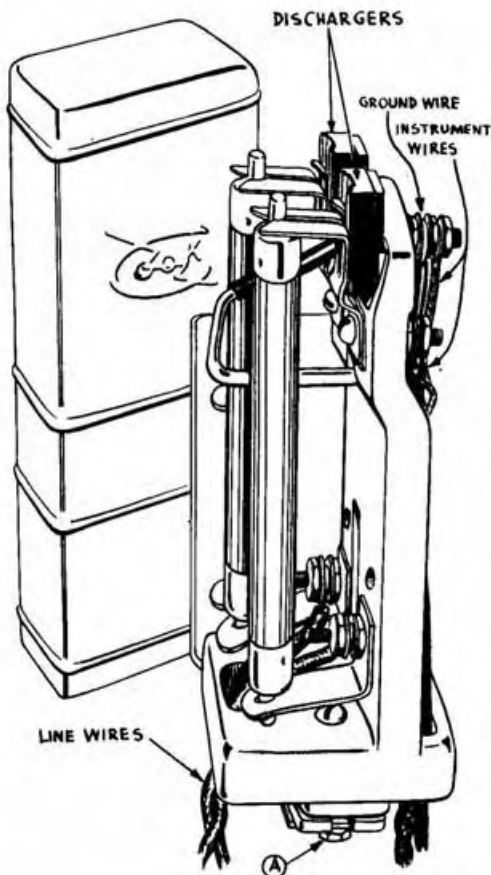

Fig. 1
Loosen 2 nuts (A) holding protector to bracket. Fig. 1.